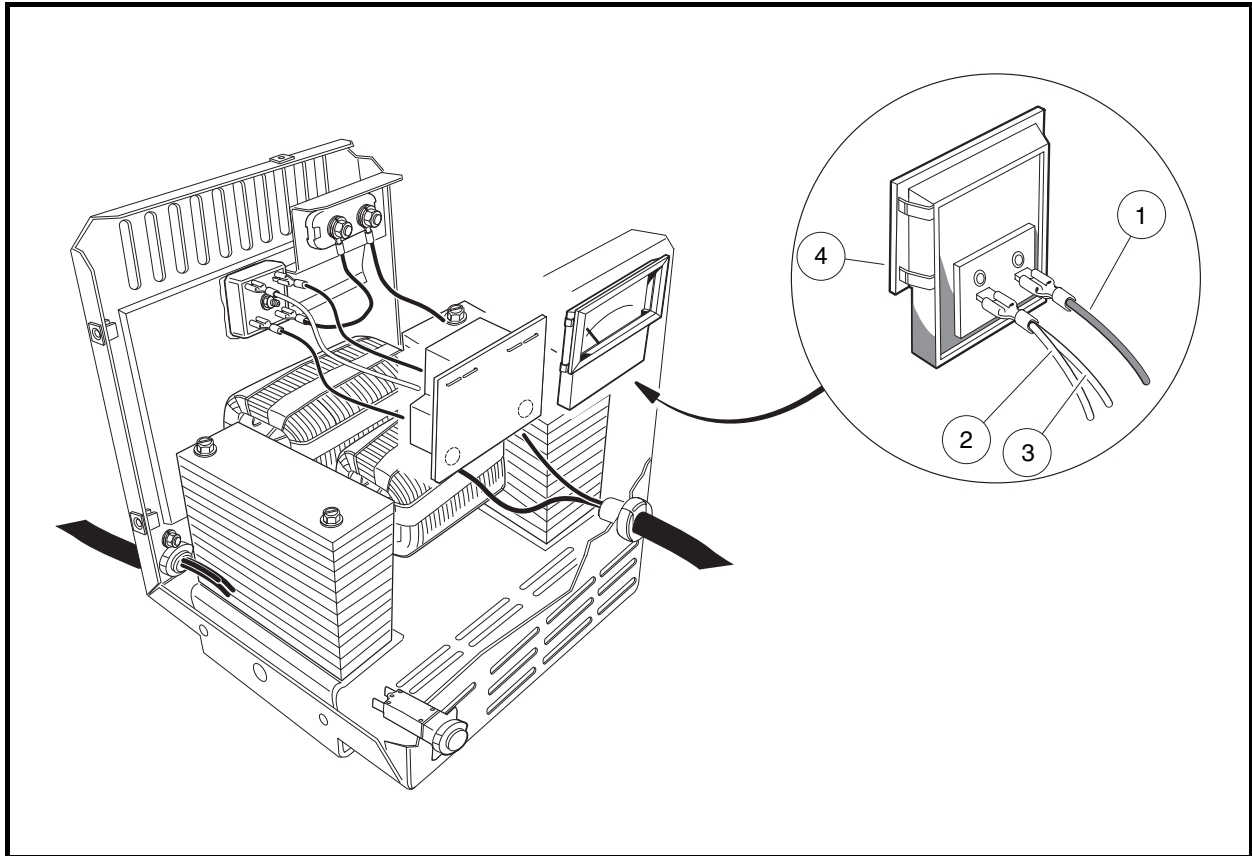

Figure 6-25 Ammeter
3. Disconnect the DC cord red wire (1) and the white wires (2 and 3) from the ammeter (4) (**Figure 6-25, Page 6-31**).
1. Place the ammeter (4) in position in the charger face and ensure that the locking tabs are secure (**Figure 6-25, Page 6-31**).
2. Connect the DC cord red wire (1) and the white wires (2 and 3) to the ammeter terminals.